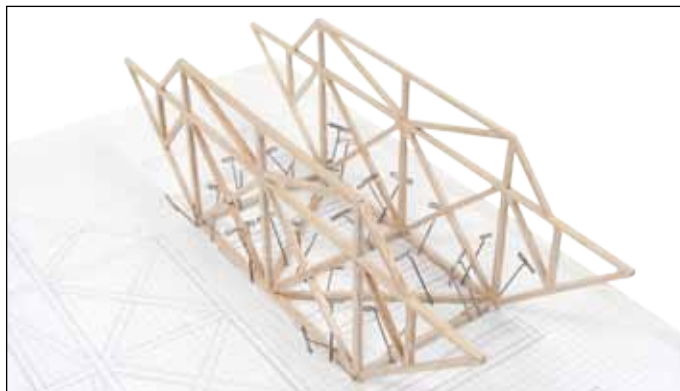

Figure 26 – Glue and pin up the second side in place.
- Add glue to the other end of the braces and pin up the other side parallel to the first side. Make sure all the pieces fit together squarely and are not loose (Figure 26). Let this dry.